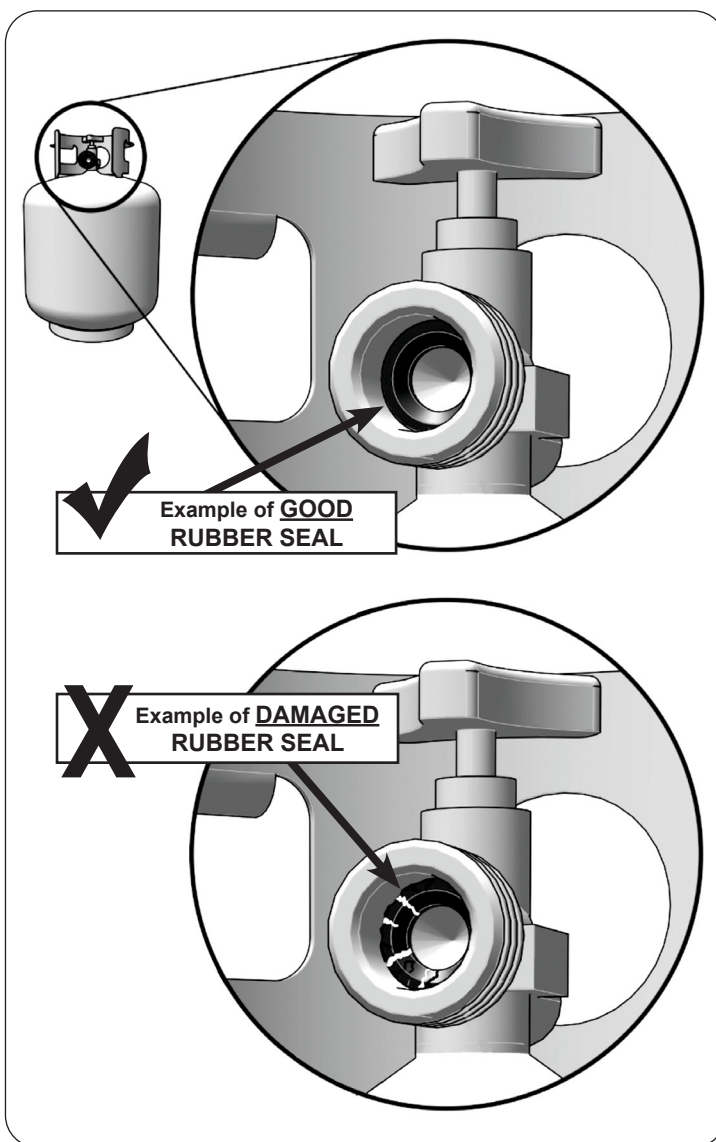

Fig. 6-1 Inspect rubber seal
- D.** **CGA 791 connections on LP gas cylinders:** The cylinder face elastomeric face seal element on these devices could, over time, show marked and visible damage or deterioration that might cause a leak even with the connection tightened. A visual inspection for the seal must be carried out every time a LP gas cylinder is replaced or refilled. Any LP gas cylinder showing signs of damage or deterioration as illustrated in Fig. 6-1, including visible cracks and pitting, must be replaced.